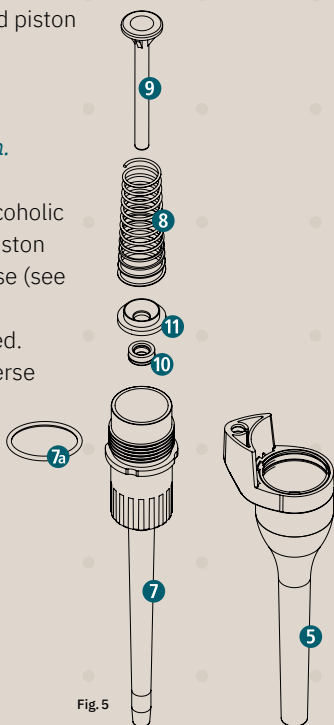

Fig. 5
- Remove the O-ring **7a**, spring **8** and piston **9** (Fig. 5).
- Remove the spacer ring **11** (only 100µl, 200µl and 1000µl models) (Fig. 5).